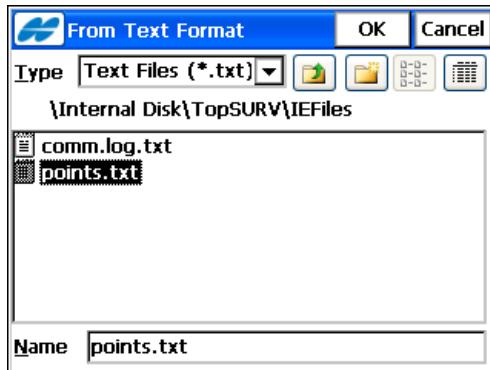

Figure 5-16. Import From Format
- **Next** – opens the *From Text Format* screen (Figure 5-16 on page 5-16).
The *From Text Format* screen browses directories from which to select the file to import data (Figure 5-16 on page 5-16).